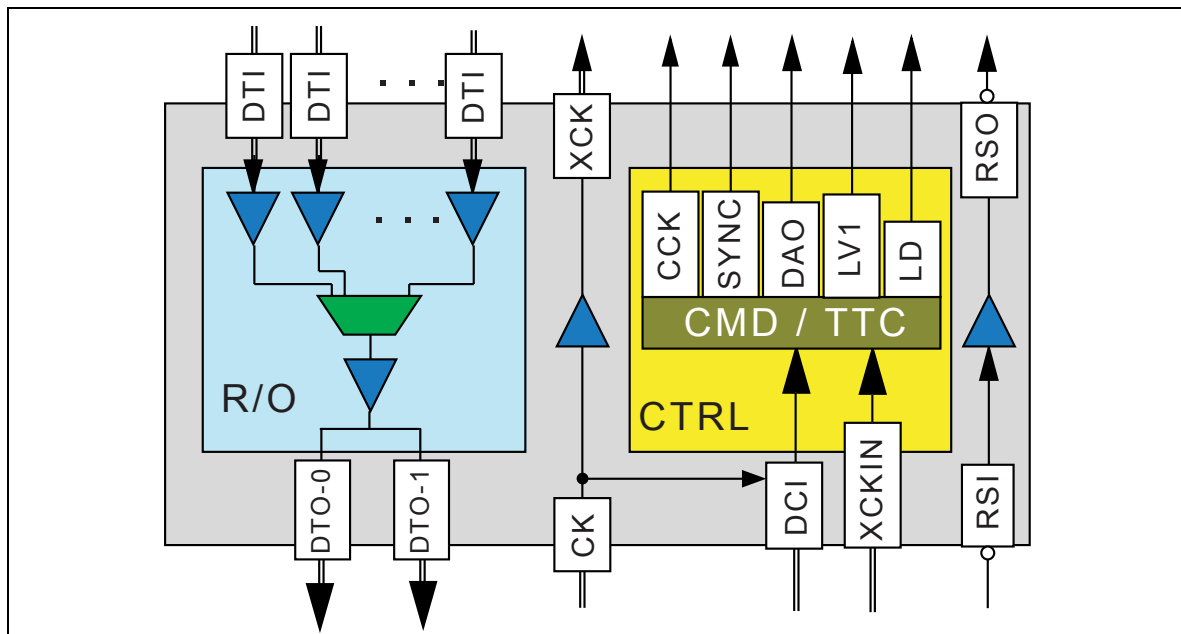

Figure 3-1 MCC signal used by the Event Read Out protocol
- Fig. 3-1** *p. 2* *MCC* signal used by the Event Read Out protocol
MCC signals that are active during data acquisition are graphically represented in Figure 3-1: